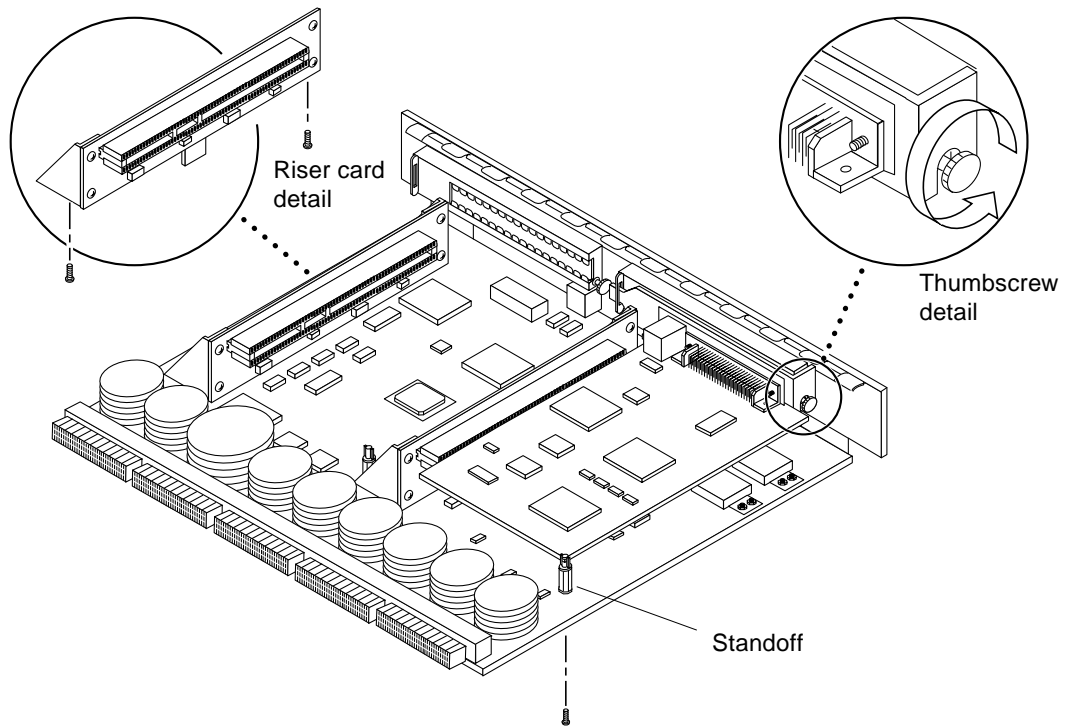
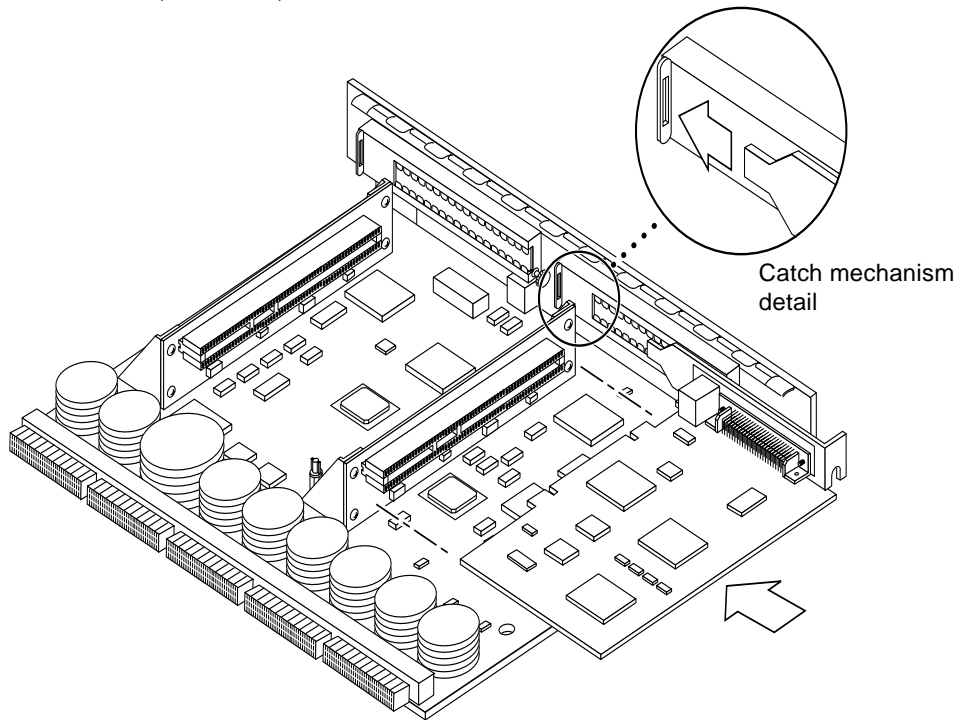

FIGURE 1-4 PCI card and Riser Card Removal
FIGURE 1-7 PCI card installation/replacement
2. On the noncomponent side of the I/O board, loosen the locking standoff for the PCI card that is to be removed (FIGURE 1-4).
3. Loosen and then remove the thumbscrew on the component side of the I/O board next to the external PCI card connector (FIGURE 1-4).
Make sure that the right rear of the card is retained by the opening in the metal catch mechanism (FIGURE 1-7) and the front right is aligned to accept the locking thumbscrew (FIGURE 1-4).
3. Remove the two screws securing the existing riser card to the PCI I/O board (FIGURE 1-4 on page 7) and remove the riser card.